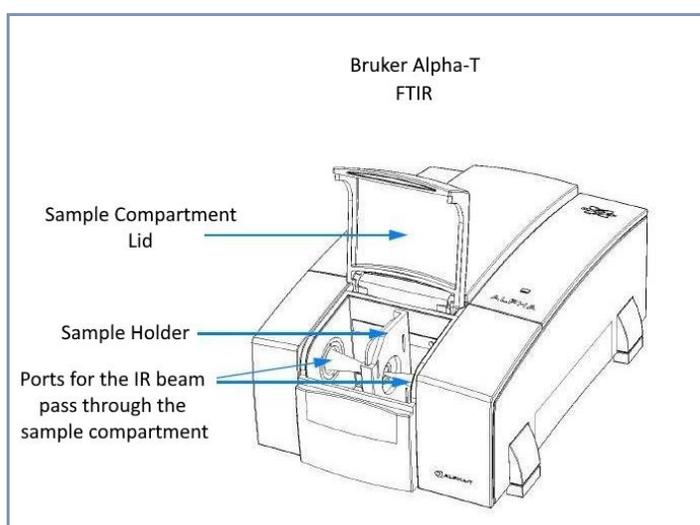

Figure 1
- 8.4.3. Start Background Measurement; Ensure the beam path is clear (Figure 1).